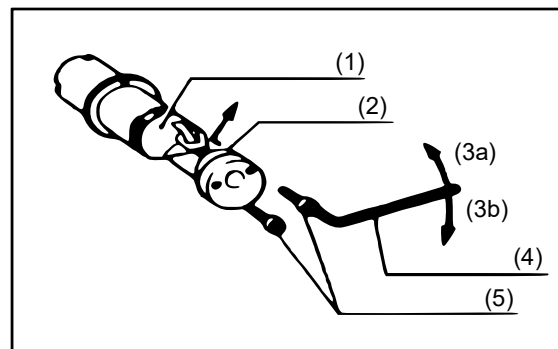

Figure 1
- Make sure to replace the punching needle and the punching die set. When disassembling them, loosen the cap nut with the wrench and disassemble the rod out of the tool. Then loosen the nut fastening the punching die with a hex wrench. Disassemble the punching die out of the rod and then loosen the screw rod fastening the punching needle with a hex wrench. Pull the punching needle out of the rod (Fig. 1 and 2).